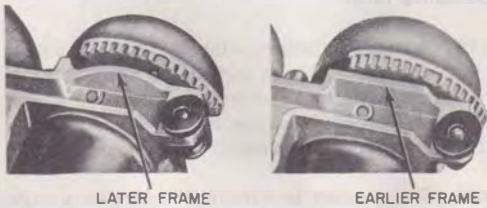

Fig. 3—C4A Ringer Frame Design
1.04 Development of network-type wall telephone sets and network-type subscriber sets made it necessary to change the frame of C4A ringer (Fig. 3). This change provides clearance for volume-adjusting arm.